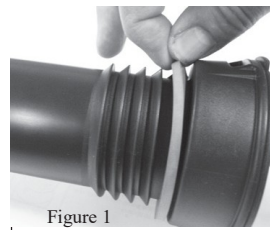

Figure 1
1. Inspect gasket. If worn or damaged, remove and replace (See Figure 1).